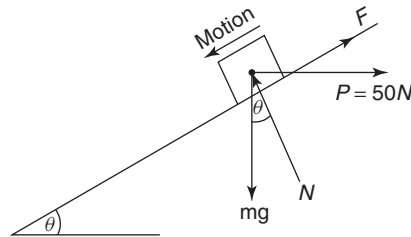

Figure 15.12
The primary forces for this problem are shown in Figure 15.12, where it can be seen that  $F$  is opposite to the direction of motion.
11. Determine the value for  $\theta$  which will just cause motion down the plane, when  $P = 250 \text{ N}$  and acts in the direction shown in Figure 15.12. It should be noted that in this problem, motion is down the plane. [ $\theta = 19.85^\circ$ ]